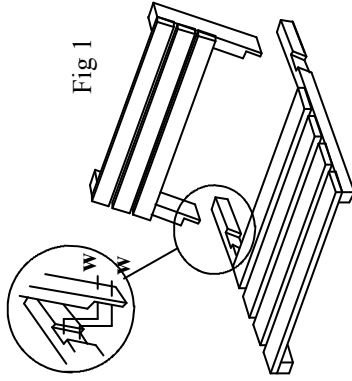

Fig 1
- 1 First of all assemble the seat as Fig 1. using two screws **W** each side.